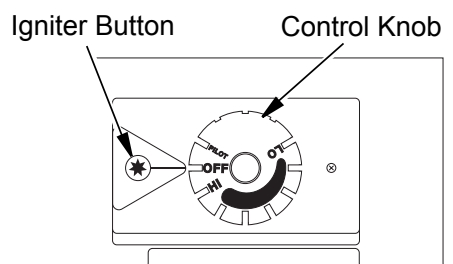

Figure 28 - Control Knob In The OFF Position
4. Wait five (5) minutes to clear out any gas. Then smell for gas, including near the floor. If you smell gas, STOP! Follow "B" in safety information, **Page 21**. If you don't smell gas, go to next step.
5. Turn control knob counterclockwise ↻ to PILOT position. Press in control knob for five (5) seconds (see **Figure 28**).